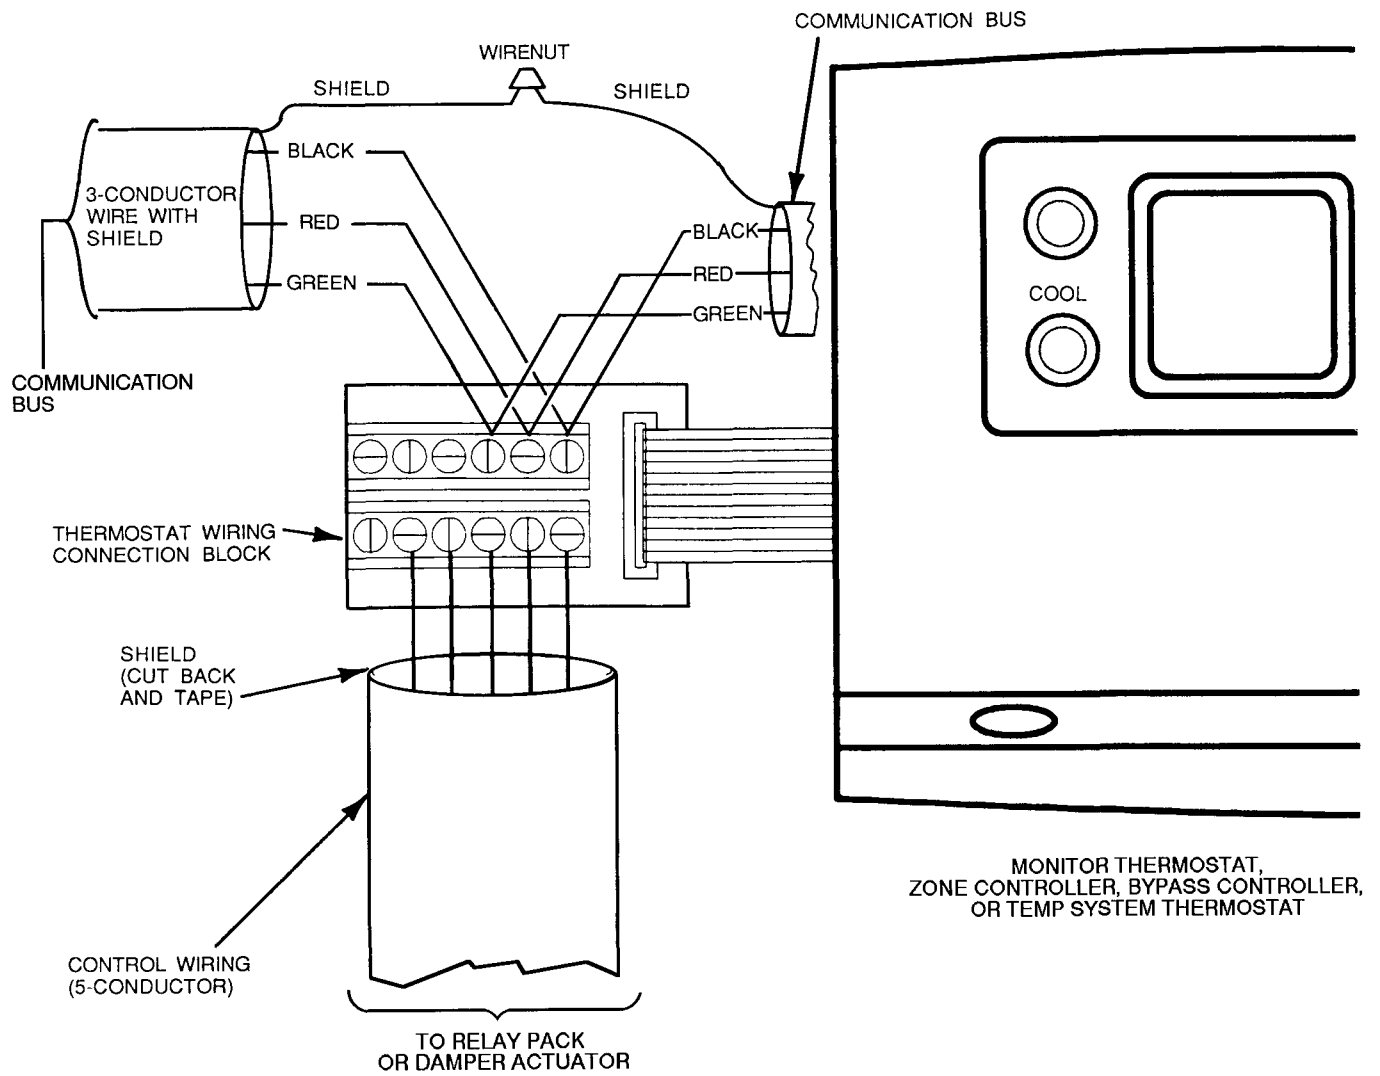

Fig. 4 — Wiring Connections
1. Connect the communication bus and power wiring to the terminal board of the thermostat. See Fig. 4.